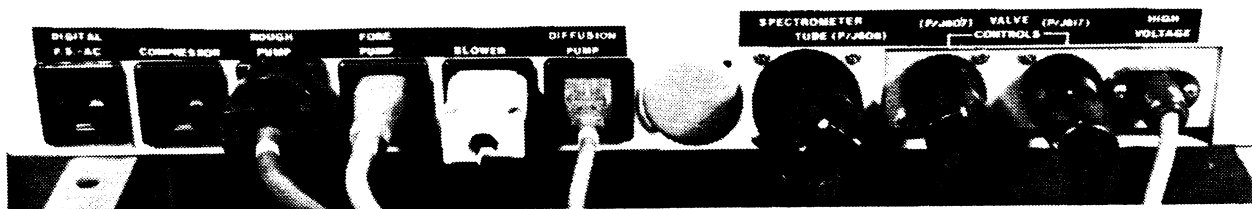

Figure 6-24.
6. Check that all cords from pumps, compressor (if present), spectrometer tube and valve control cables are connected. (See Figure 6-24.)